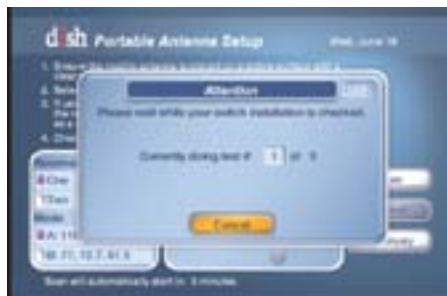

Figure 3
- ③ The satellite will begin searching and find the needed satellites (see fig. 3).
- ⑥ The satellite will begin searching and will locate the desired satellites (see fig. 3).
- ⑦ After re-acquiring, the receiver will return to the Installation Wizard and complete step 2.
- ⑧ During step 3 of the Installation Wizard, set the resolution output to match the TV being used. Follow the on-screen instructions to complete this step.